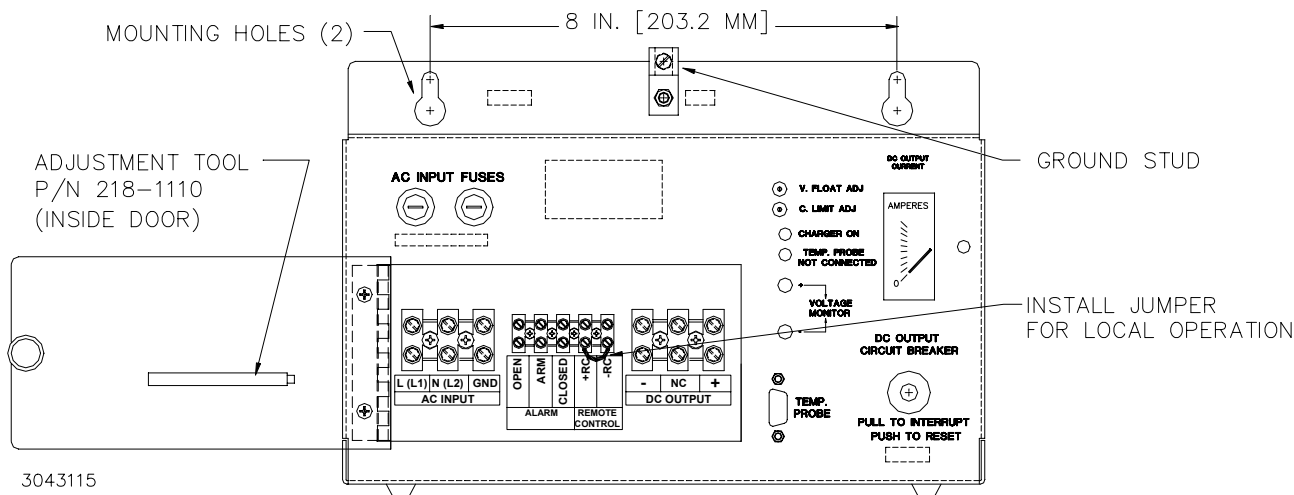

FIGURE 1. 24 VOLT ENGINE START BATTERY CHARGER, FRONT VIEW
- **Adjustable Float Voltage** - The float voltage is adjustable over a wide range (see Table 1 for adjustment range and factory setting). Adjust the output voltage from the front panel using the tool on the back of the front panel door (see Figure 1) to adjust the V. FLOAT ADJ potentiometer while monitoring the + and – VOLTAGE MONITOR test points with a precision digital voltmeter.
- **Adjustable Current Limit** - The current limit is adjustable over a wide range (see Table 1 for adjustment range and factory setting). Adjust from the front panel using the C. LIMIT ADJ potentiometer using the tool on the back of the front panel door (see Figure 1).
3. Connect the local ground connection to the ground stud (see Figure 1) using the 10-32 x 3/8 ACF Brass Hex nut provided (Kepco P/N 102-0007)
Two slotted holes, 8 inches apart, are provided on the upper rear chassis (See Figure 1) to wall mount the unit. The unit also has four feet for bench top operation. The unit has forced air cooling from a single fan located within the integral RKW power supply as well as ventilation holes in the chassis which must be kept clear from obstructions to ensure proper air circulation. Enough space must be provided around the chassis to allow the hot air to exhaust from the components inside the chassis.
3. Connect the local ground wire to the ground stud (see Figure 1) using the 10-32 x 3/8 ACF Brass Hex nut provided (Kepco P/N 102-0007)